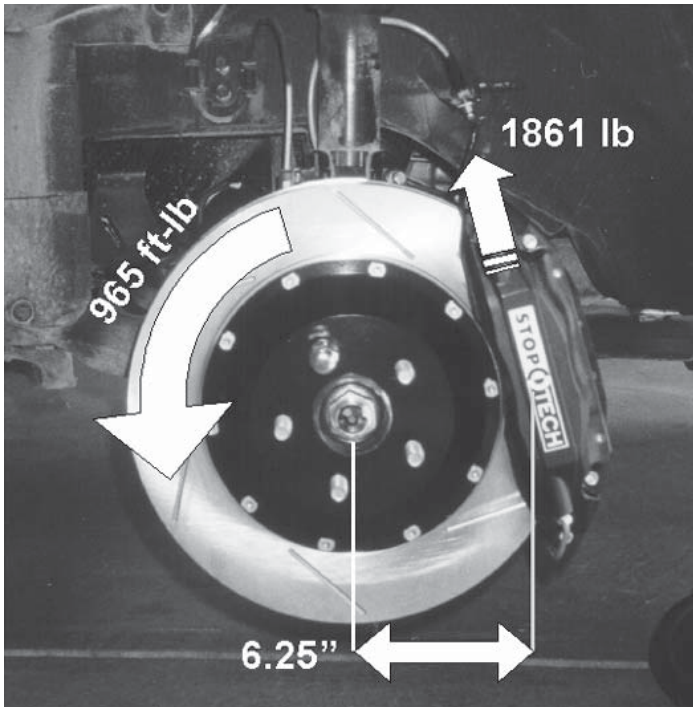

Figure 5 – The brake corner in action
By knowing the clamp load generated by the caliper and the coefficient of friction between the pad and rotor, one can calculate the force acting upon the rotor. In this particular example, let's assume the brake pads have a coefficient of friction of 0.45 when pressed against the rotor face. The rotor output force is equal to the clamp force multiplied by the coefficient of friction (which is then doubled because of the floating design of the caliper)—or in this case $\{2,068 \text{ pounds} \times 0.45 \times 2\} = 1,861 \text{ pounds}$ (see Figure 5). Nothing magical about it.
- 1) The rotor acts as the frictional interface for the brake pads. But because it is a spinning object, it reacts to the output force by absorbing the torque created. Any time a force is applied to a spinning object a torque is generated. In this case, if we assume the force to act at a point midway across the rotor face (6.2" from the center of rotation in our example) then the torque is equal to about 964 ft-lb. {1,861 pounds x 6.2" ÷ 12 inches per foot}. Take a second look back at Figure 5 to follow along.